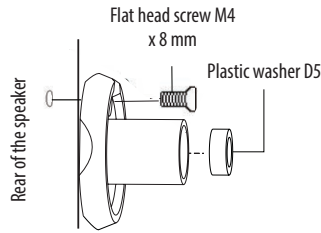

Figure 2
3. For some speakers, smaller M4 x 8 mm screws can be used, which are inserted into the hole above the center of the mounting post (see Figure 2).